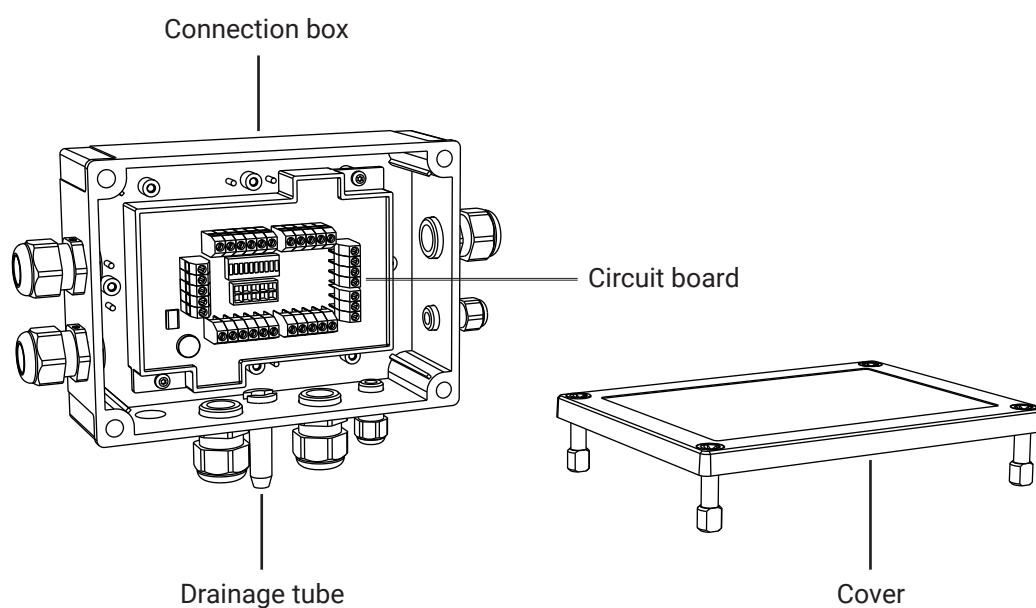

Figure 32. Connection box
2. When fitting, the drainage tube must be facing downwards, see Figure 32.